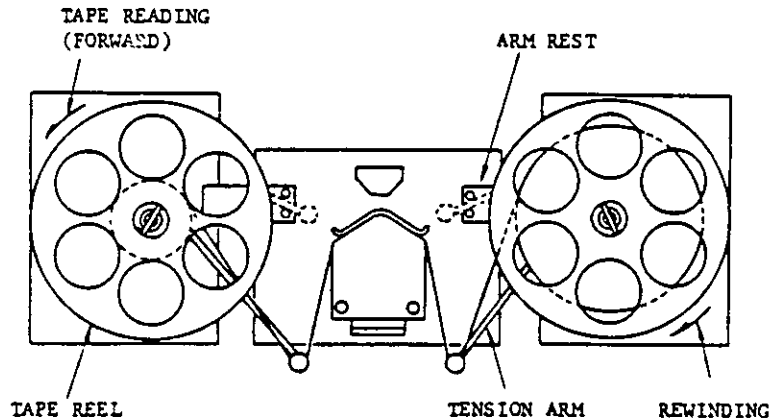

Fig. 5.2.2 Tape Reader with Tape Reels
5. Holding the reel not to loosen the tape, detach the tension arm from the arm rest and push down slowly. Fig. 5.2.2 shows the tape properly mounted on the tape reels. Then tape reader is ready to operate.
When the reels are not used, place the tension arms on the arm rests as shown by broken lines in Fig. 5.2.2.